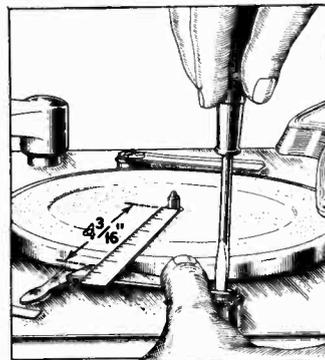

Figure 3—Adjusting elevator pad
7. After the instrument has completed one record changing operation, a ten inch record should extend about three-quarters way over each elevator pad. If this condition does not exist, an adjustment can be made by means of the screws that hold the pads in position. A pair of pliers heavily padded with cloth or other soft material should be used to hold the elevator shafts while loosening and tightening the screws. The distance from the closest part of either pad to the edge of the spindle is approximately $4\frac{3}{16}$ ". Figure 3 shows the method of making this adjustment.